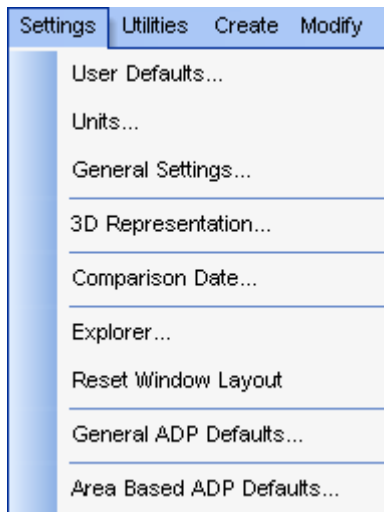

Figure 4.1. Draft Settings menu
3. From the ADP top menu bar, click on **Settings** and select **Area Based ADP Defaults...** from the drop down menu (Figure 4.1.: Draft Settings menu).